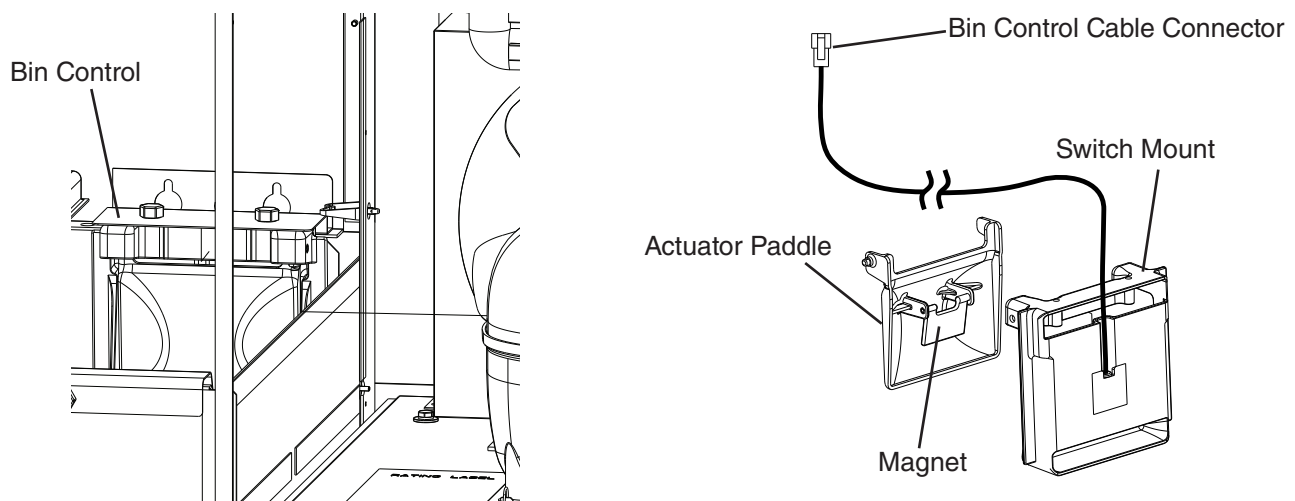

Fig. 6
- 5) Remove the actuator paddle from the switch mount. See Fig. 6.